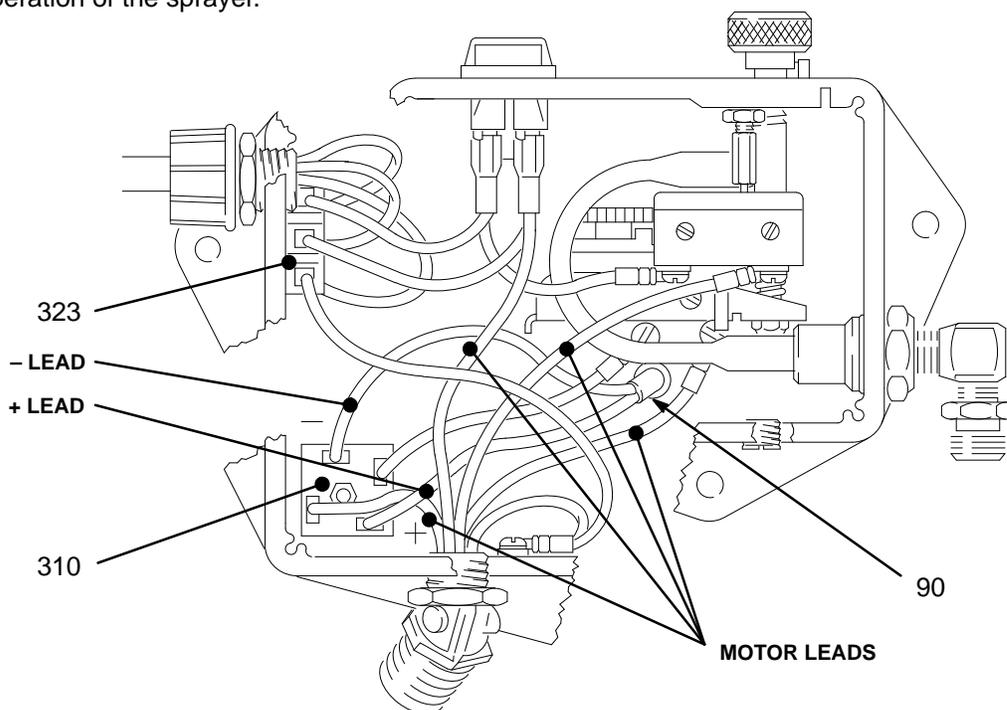

Fig. 15
2. Remove the pressure control cover (76). Disconnect the + and - leads from the rectifier (310). These leads go to the clutch field. Disconnect the five motor leads. These leads go through the conduit to the motor. See Fig. 15.